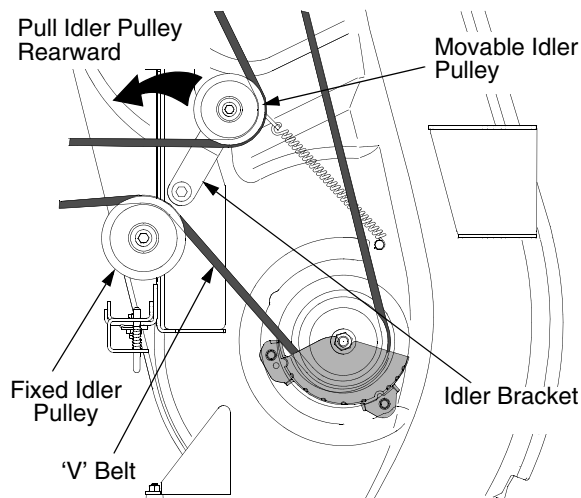

Figure 28
- Working from the middle of the tractor, pivot the idler bracket and movable idler pulley rearward away from the backside of the 'V' belt just far enough to lift the belt up and over the idler pulley. See Figure 28.
- Route the backside of the belt around the fixed idler pulley of the deck. Refer to Figure 28.
- Working from the middle of the tractor, pivot the idler bracket/movable pulley rearward against the spring tension and slide the backside of the belt onto the movable idler pulley. Refer to Figure 28.
- Make certain the belt is in the spindle pulleys of the deck, and that the backside of the belt is against both the fixed and movable idler pulleys. Refer to Figure 28.